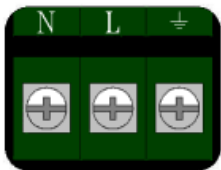

Figure 3-6
All connections to the recorder are made to the Rear Terminal Panel. Any wiring carrying hazardous voltages must conform to all applicable local and national safety codes. AC Mains connection is via an internationally accepted IEC 320 AC mains connector or screw terminal (Figure 3-5 and Figure 3-6).
Figure 3-6 shows the screw terminal power connections on the rear of the recorder. The right terminal is ground, the center terminal is LINE (L) or hot and the left terminal is NEUTRAL (N) or return. The wire color codes are as follows: